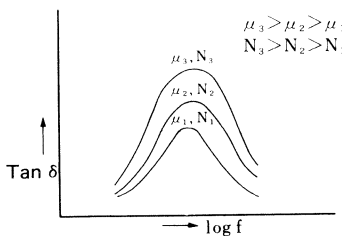

Fig. 3
- (1) Since $\tan\delta$ of a material varies in proportion to the magnitude and number of dipole per c.c. of the material, its $\tan\delta$ increases when a change in its chemical structure or other changes, such as oxidation and absorption of a polar molecule like water, take place in the substance (Fig. 3). In other words, material deterioration can be known from measurements of $\tan\delta$. For instance, the deterioration of high polymer materials and the moisture content of foods and cement can be known from measurements of their $\tan\delta$.